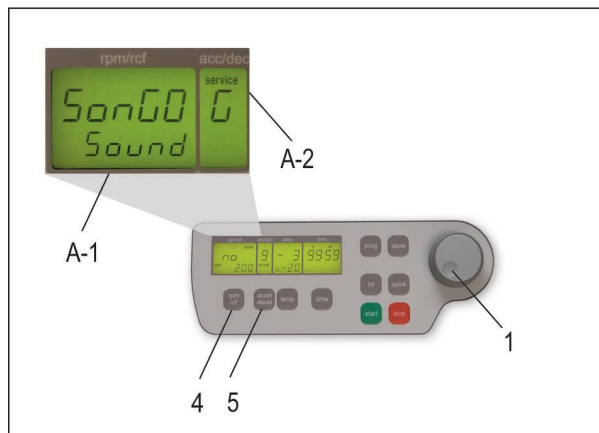

Figure 7
Proceed as described under point 1.8.1 to enter this program mode and then press the key „accel/decel“ (5). In the display „accel/decel“ (A-2) flashes the word „service“. Now select the letter „G“ with the adjusting knob (1). As a result appears in the display „rpm/rcf“ (A-1) the word „SonGo/Sound“. After pressing the key „rpm/rcf“ (4), you can select a song with the adjusting knob (1). (see figure 7).